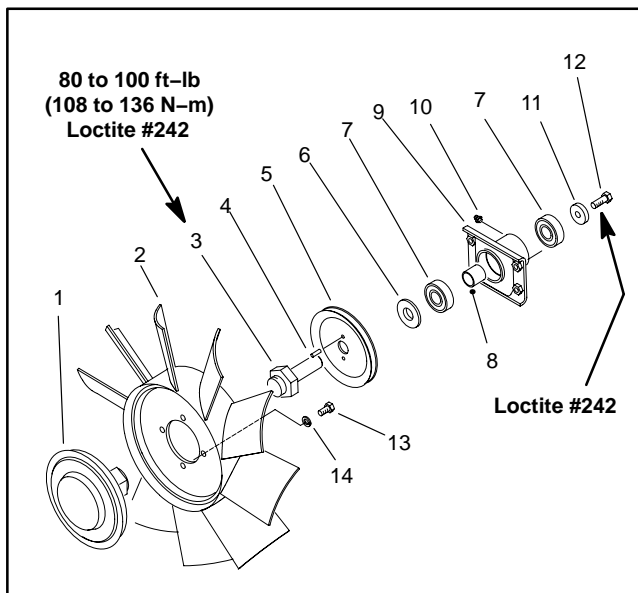

Figure 34
Disassembly (Fig. 34)
4. If necessary, disassemble pulley and fan assembly using Figure 34 as a guide.
Assembly (Fig. 34)